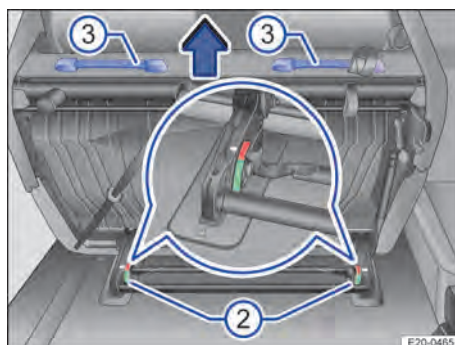
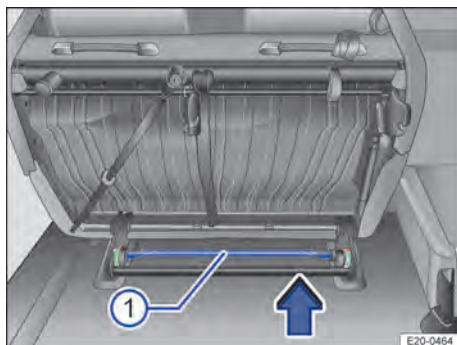

Fig. 68 Second row of seats: Removing the two-seat bench.
Fig. 67 Second row of seats: Removing the two-seat bench.
3. Pull the rods → Fig. 67① in the direction of the arrow until both locking marks → Fig. 68② are in the red area.